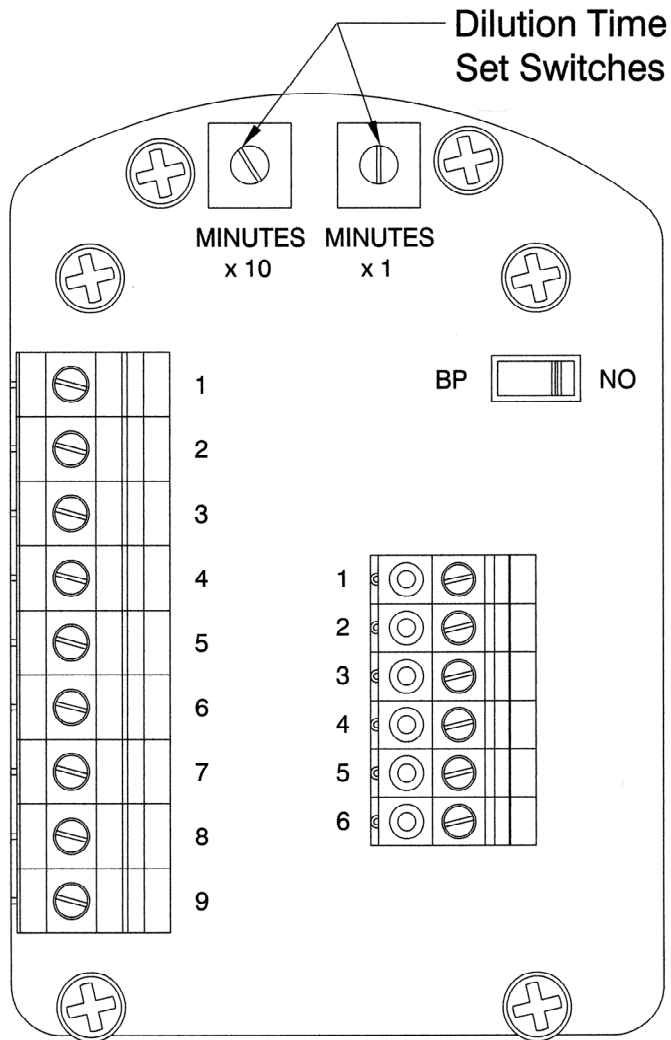

Figure 2
With Automatic Leakage Compensation Purge Gas Inlet Kit solenoid valve wires connected to correct terminal blocks in TRYCLOPS X – Purge Controller, XP Version set automatic dilution time cycle to ensure that at least five (5) times the volume of free space in the electronics enclosure is exchanged before power is automatically applied to the electrical equipment. Refer to Figure 2 for location and details of dilution time switches.